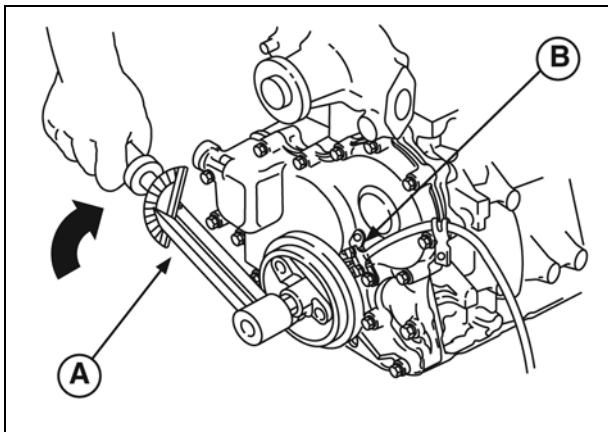

Figure 19
Note position, length, and number of screws (Figure 19). Torque screws to values listed in Section 14 - Engine Specifications.
11. Install crankshaft pulley with timing mark at 12 o'clock position (No. 1 cylinder) (Figure 19).